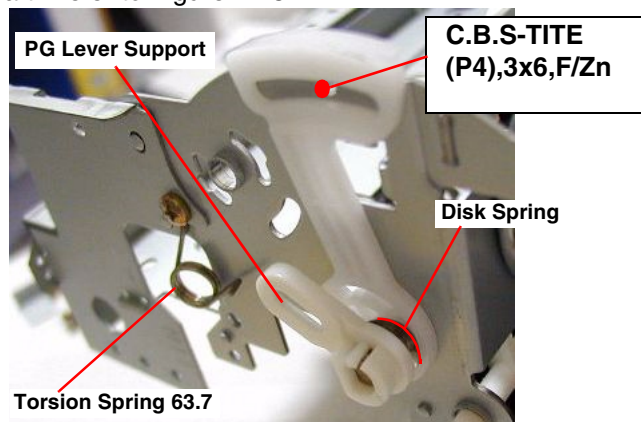

Figure 4-45. Removing the Torsion Spring 63.7 & PG Lever
- 8) Using tweezers, remove the Torsion Spring 63.7 hung onto the right side of the Top Frame and PG lever. Refer to Figure 4-45.
- 9) Release the fixed hook of the PG Lever Support, then remove the PG Lever Support and Disk Spring (6.2x0.15x1, S/NA) from the right end of the CR Guide Shaft. Refer to Figure 4-45.
- When installing the Disk Spring (6.2x 0.15x1,S/NA), pay attention to its direction. Set the convex side facing to the right. Refer to Figure 4-45.
- When installing the PG Lever, refer to the Figure 4-45.